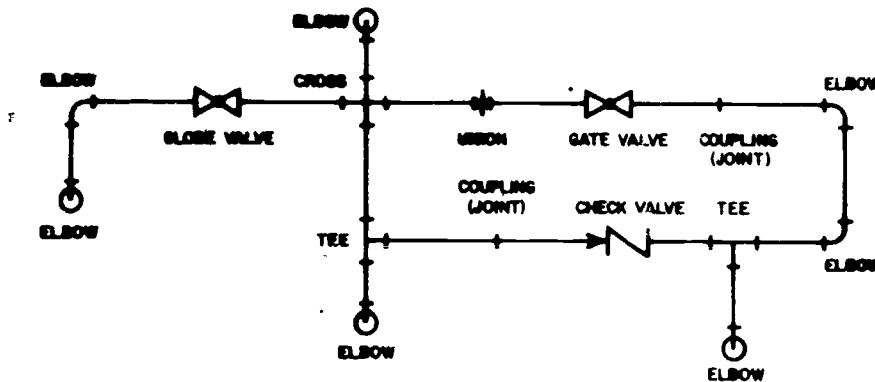

Figure 10.2 Single Line Drawing
1. Make a double-line isometric drawing of figure 10.2.